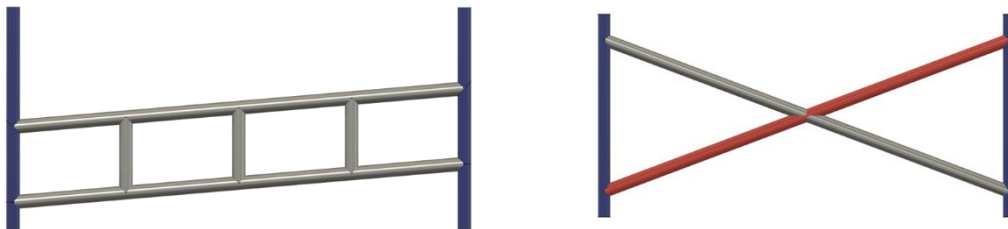

Figure 9
- B. Braces shall be attached as near as possible to the top of the main hoop not more than six (6) inches below the top and at an included angle of at least thirty (30) degrees.
- B. The door bars may run parallel, or in the shape of an “X”. Refer to Figure 9.